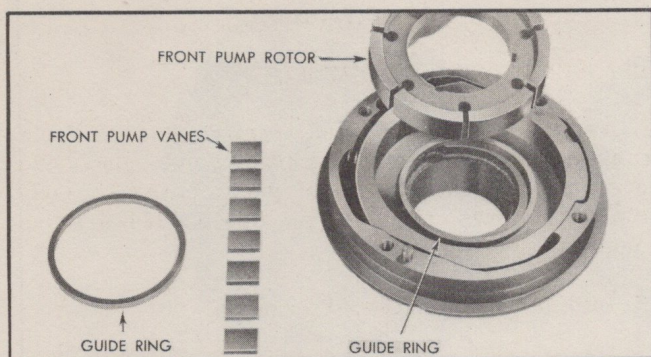

Fig. 23 Removing Front Pump Rotor
6. Remove guide rings, rotor and seven vanes (Fig. 23).